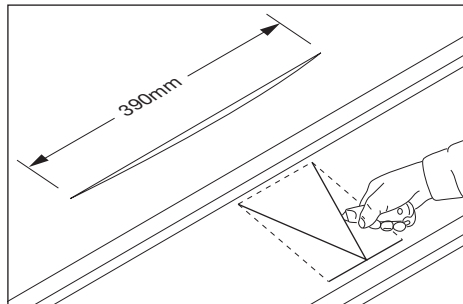

Fig. 1 – Make aperture in underlay
- 2 Determine position of tile vent terminal (ideally mid-span between rafters) and form a 'V' cut in the underlay to accommodate box spigot (Fig. 1).